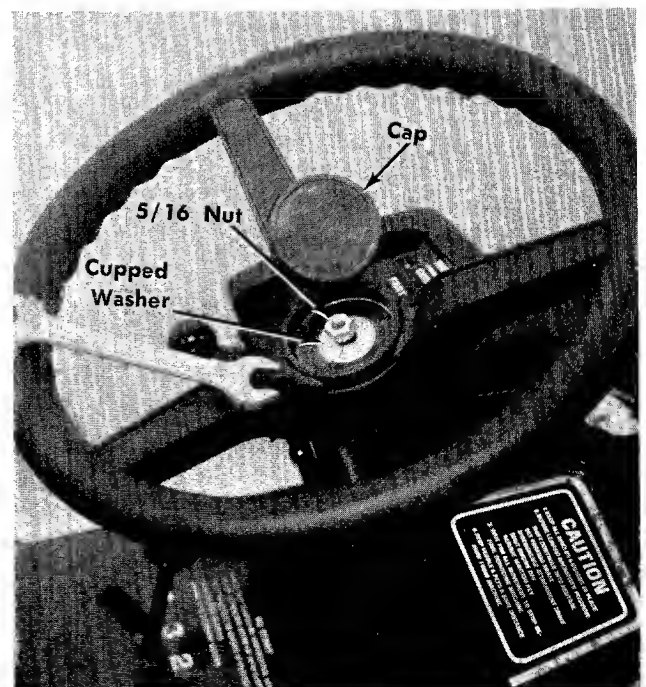

FIGURE 2.
2. Place the steering wheel over the steering shaft. See figure 2.